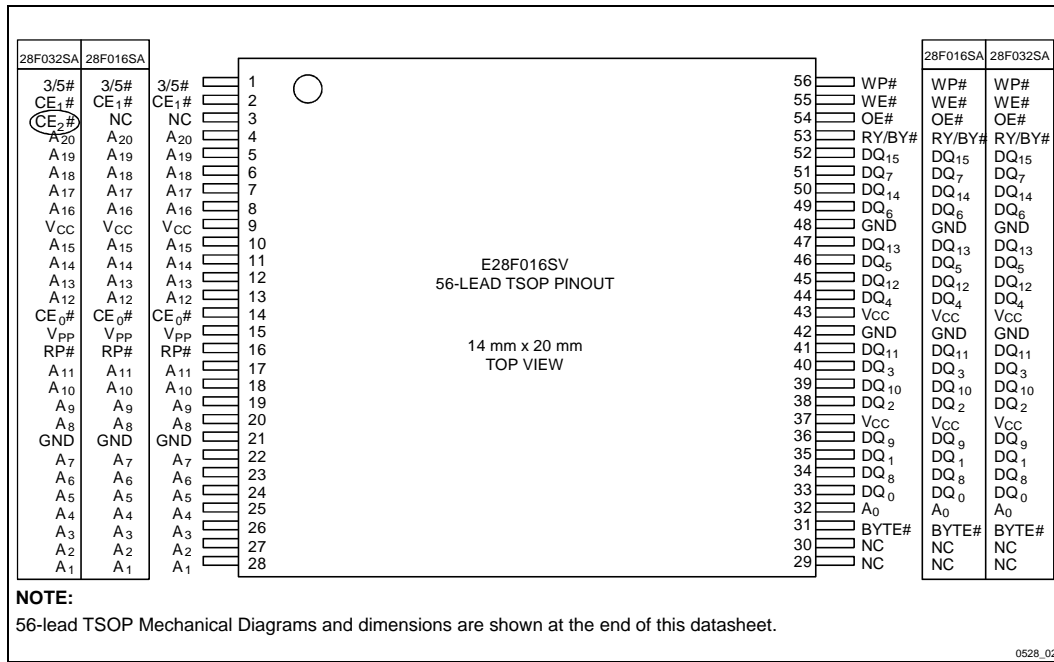

Figure 2. 28F016SV 56-Lead TSOP Pinout Configuration Shows Compatibility with 28F016SA/28F032SA
-004	<p>Added 3/5# pin to Block Diagram (Figure 1), Pinout Configurations (Figures 2 and 3), Product Overview (Section 1.1) and Lead Descriptions (Section 2.1)</p> <p>Added 3/5# pin to Test Conditions of ICCS Specifications</p> <p>Added 3/5# pin (Y) to Timing Nomenclature (Section 5.5)</p> <p>Increased t_{PHQV} Specifications at 5V V_{CC} to 400 ns for E28F016SV 065 devices and 480 ns for E28F106SV 070 devices.</p> <p>Modified Power-Up and Reset Timings (Section 5.9) to include 3/5# pin: Removed t_{5VPH} and t_{3VPH} specifications; Added t_{PLYL}, t_{PLYH}, t_{YLPH}, and t_{YHPH} specifications</p> <p>Added t_{PHEL3} and t_{PHEL5} specifications to Power-Up and Reset Timings (Section 5.9)</p> <p>Corrected TSOP Mechanical Specification A_1 from 0.50 mm to 0.050 mm (Section 6.0)</p> <p>Corrected SSOP Mechanical Spec. B (max) from 0.20 mm to 0.40 mm (Section 6.0)</p> <p>Minor cosmetic changes throughout document.</p>
A significant 28F016SV change occurred between datasheet revisions 290528-003 and 290528-004. This change centers around the addition of a 3/5# pin to the device's pinout configuration. Figures 2 and 3 show the 3/5# pin assignment for TSOP and SSOP Type 1 packages. Intel recommends that all customers obtain the latest revisions of 28F016SV documentation.
The 28F016SV 56-lead TSOP and 56-lead SSOP Type I pinout configurations are shown in Figures 2 and 3.